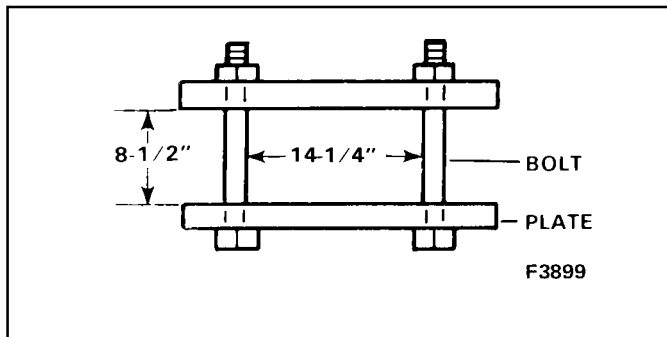

Figure 6-33. Welding Clamps
5. Use clamps made as in Figure 6-33 to clamp the racks back-to-back.